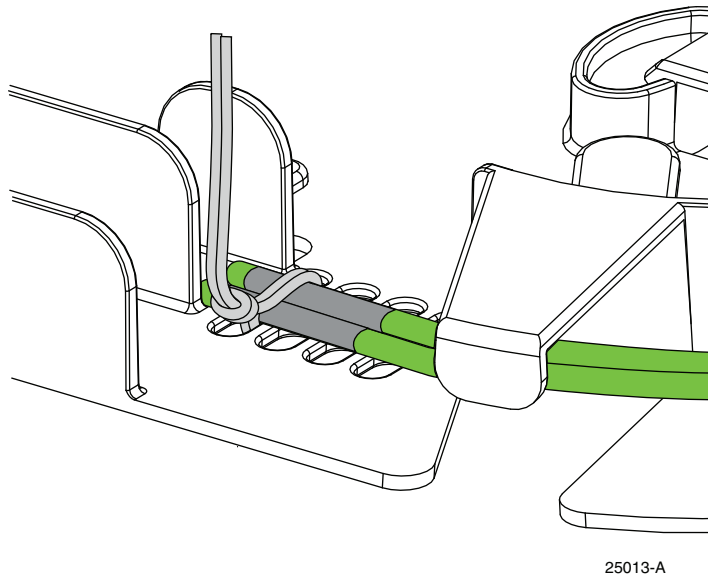

Figure 20. Tightening Cinch on Cable
8. Pull the double strand tight to tighten the cinch over the cable, as shown in Figure 20. The first wax lacing stacking layer has now been tied onto the fiber breakout deck.